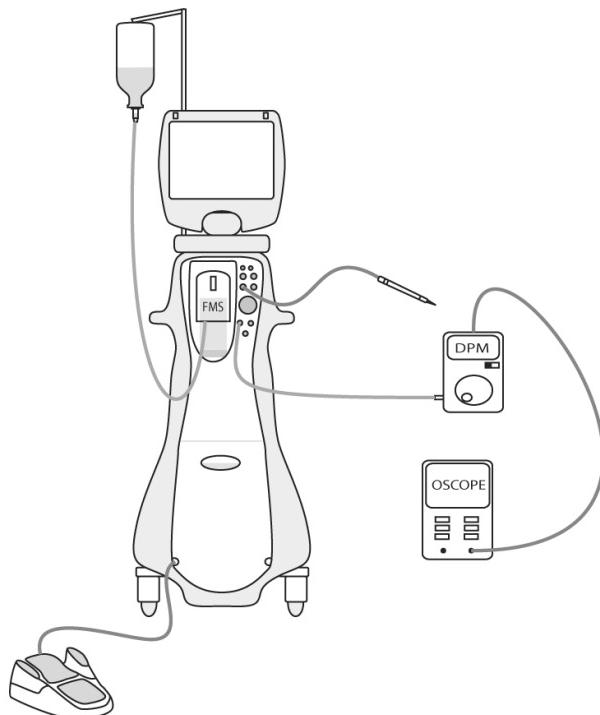

Figure 9: U/S & Pneumatic Test Setup (w/DPM shown)
- 2.2.6.1.1 Connect tubing from the INFINITI™ VIT luer fitting to DPM per Figure 9. Set the DPM pressure range to -13.5 to 100 PSI.
- 2.2.6.1.2 Connect 1/4" Phono Jack from DPM HI LEVEL OUT (100 mV=10 PSI) to Scopemeter Channel 1 per Figure 9. Set Scopemeter to measure 1:1 voltage at 100mV per div., trigger Channel 1 positive (+), DC, Time 20ms.